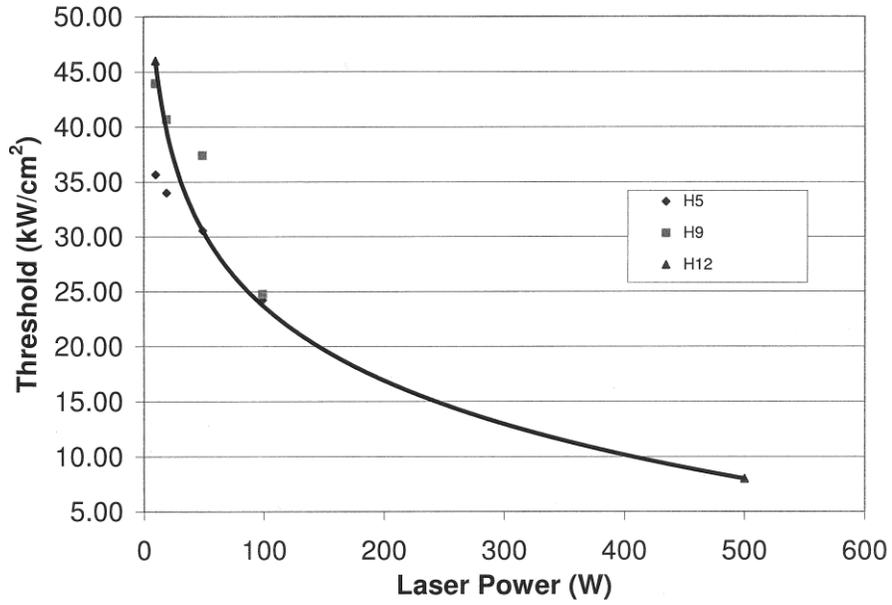

FIG. 1-8 MAX AVERAGE POWER DENSITY FOR UP WITH H-TYPE ABSORBER AT 1.064 μM.
The UP with amplification has 3 holes on top of the detector for the UP12E, UP19K and the UP25Z(T) and on the left side of the detector for the UP25N(M), UP50N(M), UP55N(M) and the UP60N(M) giving access to the potentiometers to adjust the gain, the anticipation and the offset, as shown in figure 1-8.